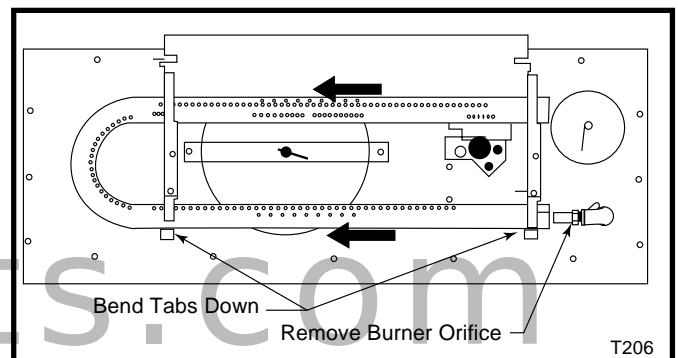

Fig. 41 Move burner tube to replace orifice.
3. Move the burner to the left and off of the burner orifice (Fig. 41)